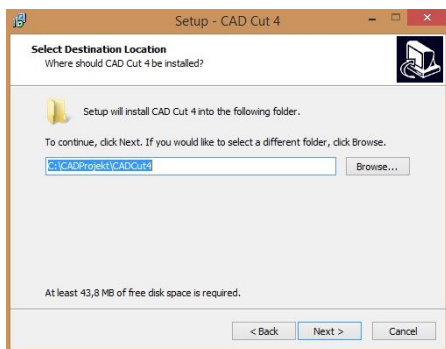

Fig. 10 – default installation path
- After clicking **'Next >'** you can indicate a location on a disk, in which CAD Cut program files are to be installed (Fig. 10) - the default location is **C:\CADProjekt\CADRozkroj**.